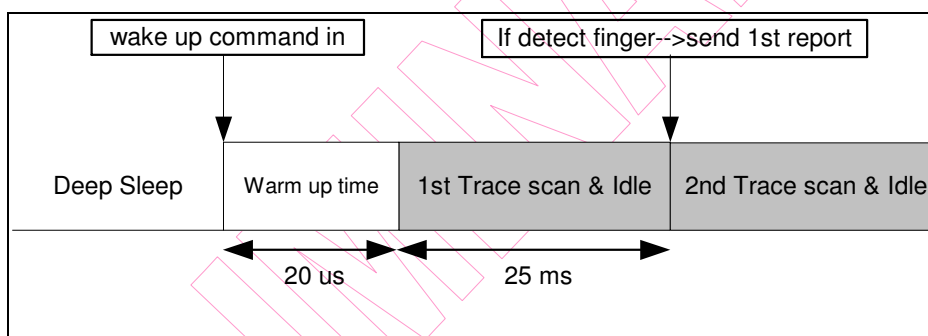

Fig. 7-2 Wake-up Timing from Deep Sleep Mode
B. Wakeup: Fig 7-2 below shows the eKT8100A wake-up time from deep sleep mode.